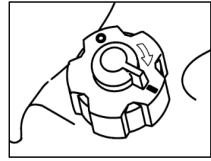

Figure 33
1. Turn on the fuel stopcock to position "I", Figure 33.